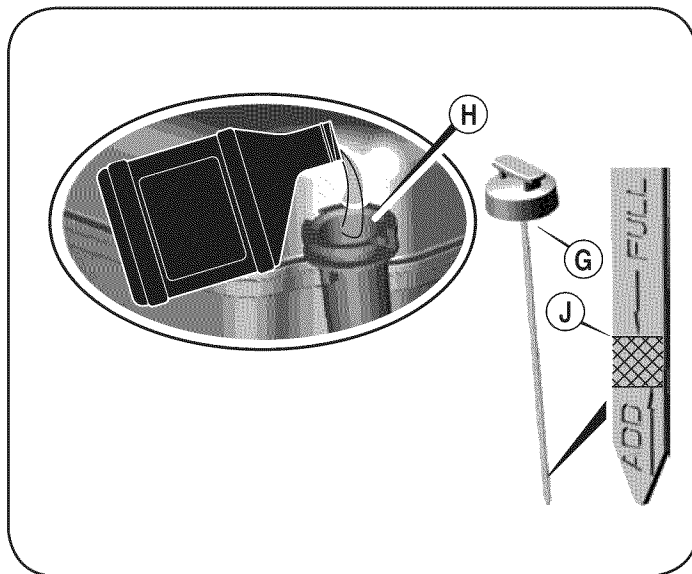

Figure 11
1. Remove oil fill dipstick (G). See Figure 11.
2. With the yard vaccum on level ground, empty entire contents of oil bottle provided into the engine oil fill (H).
3. Insert and tighten the oil fill dipstick. Remove it to check the oil level. See Figure 11.